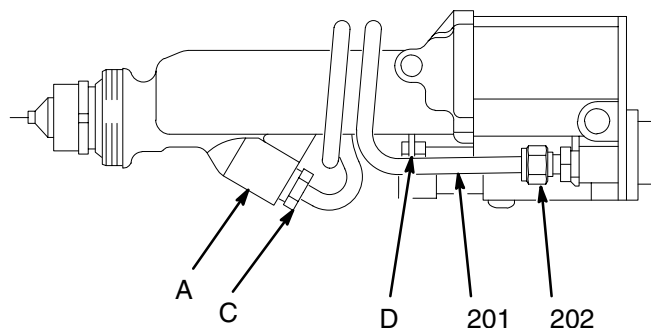

Fig. 27 04672
7. Position the coiled tube assembly so its threaded inlet fitting (C) is aligned with the barrel fluid inlet (A), then tighten the fitting into the inlet as shown in Fig. 27 .
9. Install the coiled tube assembly (201) into the fluid fitting and tighten the nut (202). See Fig. 27 . Make sure the entire tube is clear of the actuator arm (D) to avoid having the tube rub against it during operation.